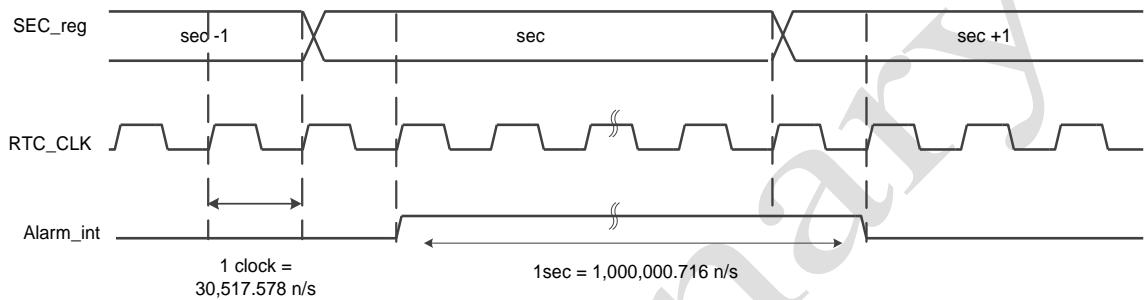

Figure 12-3 Alarm Interrupt Operation
- \* Configure alarm interrupt using Control register[3:0], and then alarm register write, it generate interrupt on desired time. (Refer to Figure 12-3)